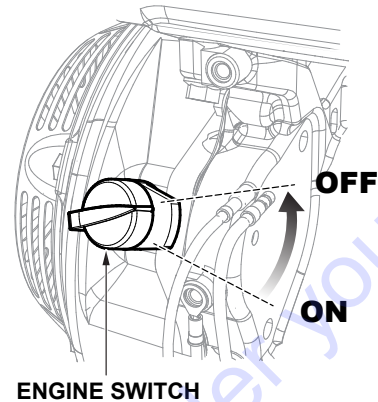

Figure 42. Engine ON/OFF Switch (OFF)
- Turn the engine **ON/OFF** switch to the **OFF** position (Figure 42).